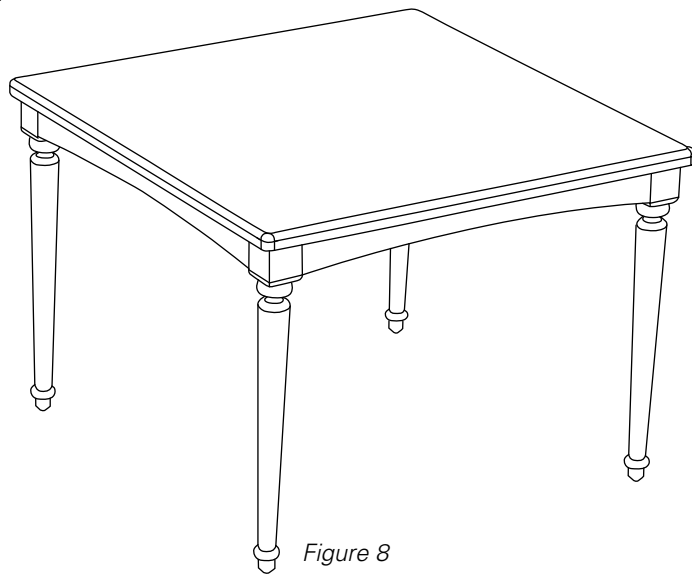

Figure 8
5. Insert the two screws into the metal leg plate and screw them into the bottom side of the top, and repeat for each leg (Figure 8).